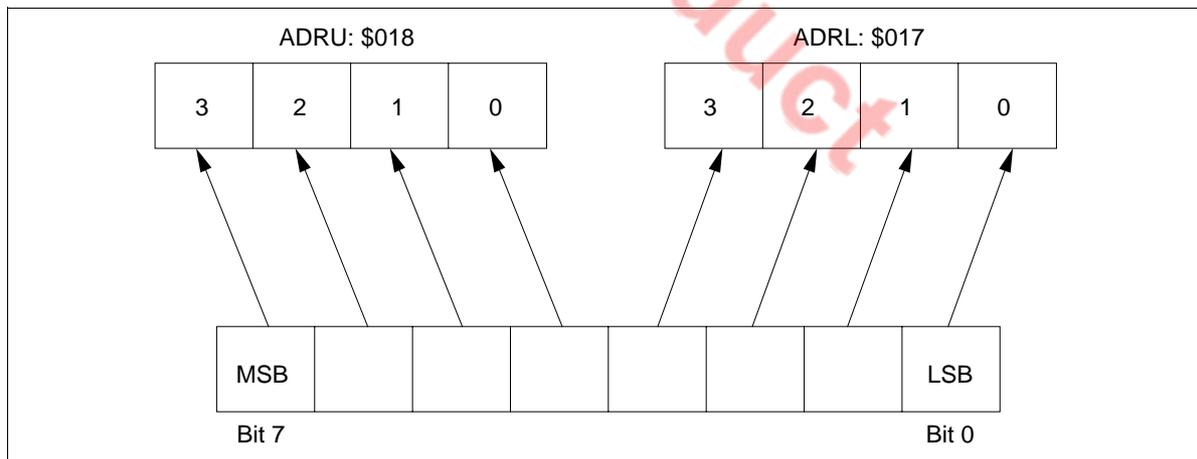

Figure 68 A/D Data Registers (ADRU, ADRL)
**A/D Data Register (ADRL: \$017, ADRU: \$018):** Eight-bit read-only register consisting of a 4-bit lower digit and 4-bit upper digit. This register is not cleared by reset. After the completion of A/D conversion, the resultant eight-bit data is held in this register until the start of the next conversion (figures 68, 69, and 70).